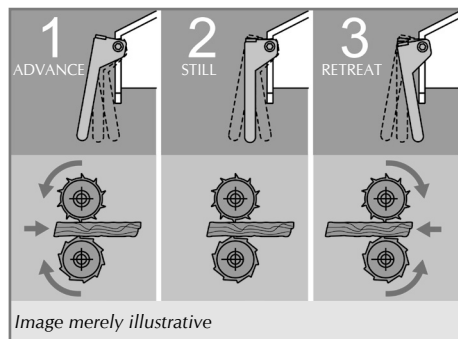

Figure 12
- ✓ After defining the programming of the ideal work rotation, move the drive bar of the feeding rolls, located at the feeding funnel, to test the three stages: advance, still, and retreat, as per Figure 12.